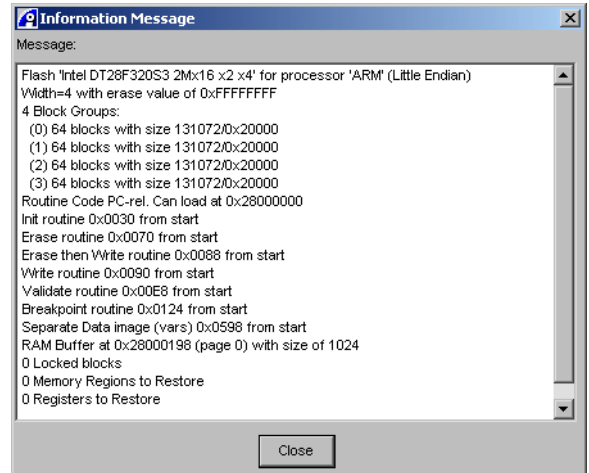

Figure 7-6 Flash memory details
9. If you want to view details of the Flash memory, click **Flash** in the Flash Memory Control dialog box. This displays details of the Flash memory, as shown in Figure 7-6 on page 7-21.